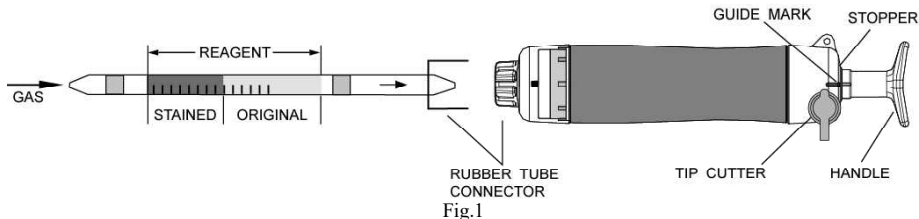

Fig.1
- ② Insert the detector tube into aspirating pump securely as shown in Fig.1. (Arrow mark shall point to the pump.)
- ③ Align the guide marks on the shaft and stopper of the aspirating pump.
- ④ Pull the pump handle at a full stroke until it locks and wait for 2 minutes or until the completion of sampling is confirmed with the flow indicator of the pump (See descriptions about the flow indicator in the instruction manual of the pump).
- ⑤ On completion of sampling, read the scale at the maximum point of the stained layer.